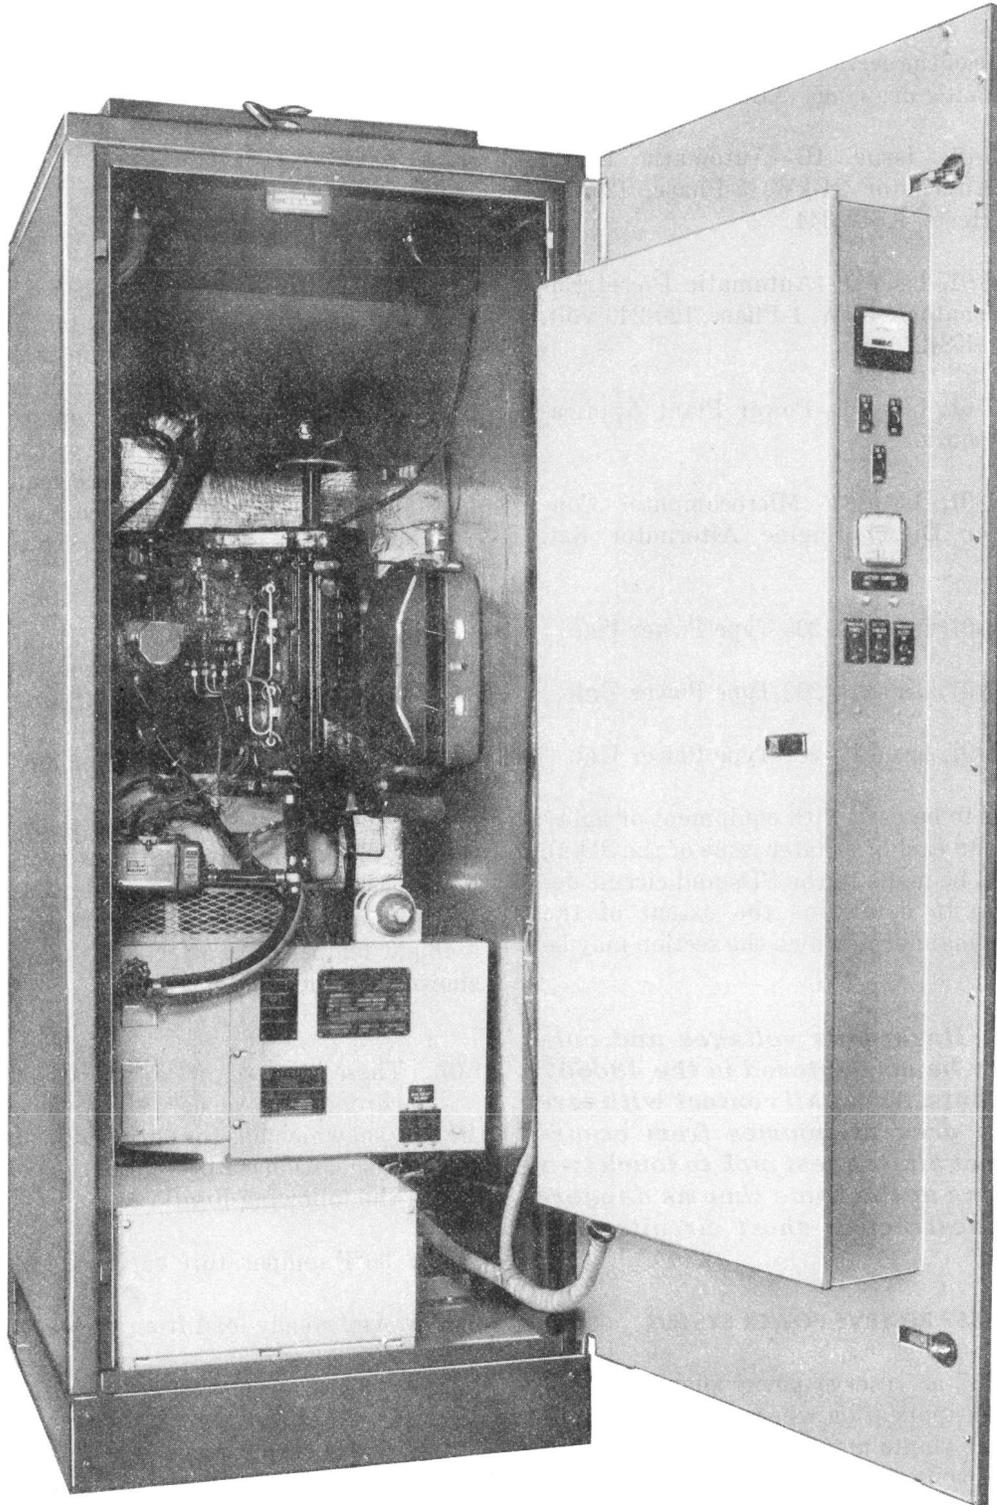

Fig. 2—J86657 24- or 40-KW AC Reserve System—Front Panel Open
1.04 The J86657 ac reserve power plants are intended for application where space is a problem, although the plants may be applied wherever a 24- or 40-kW capacity ac reserve power plant is required. As a result of the vertical design (see Fig. 2 and 3) of the plant, the floor space required for either